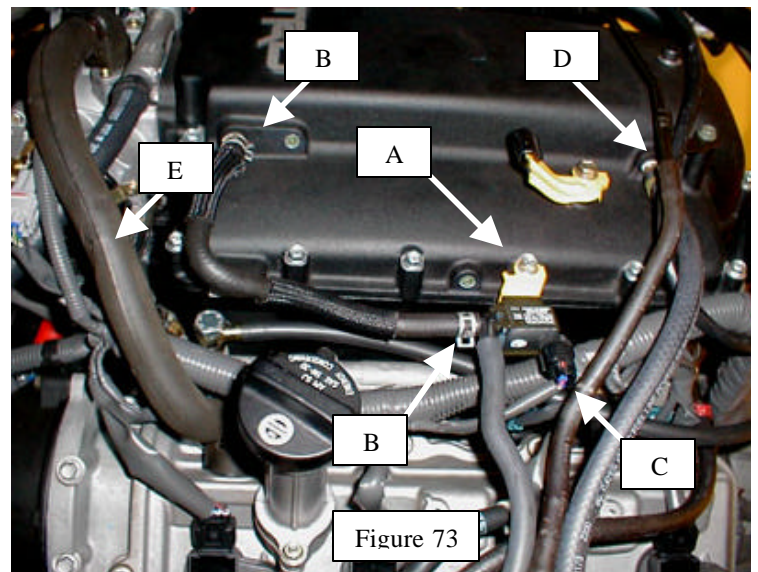

Figure 73
61. Remove one 6mm bolt in the TRD manifold. Bolt location shown in Figure 73, Arrow A.
62. Secure the EVAP VSV with the 6mm bolt removed in the previous step. Torque to 16 N-m (12 ft-lbf). Complete installation shown in Figure 73.
63. Connect the EVAP VSV vacuum hose to the VSV and the 3/8" hose nipple on the TRD manifold. Use OE clamps to secure the hose (B Arrows, Figure 73).
64. Re-connect the VSV electrical connector to the VSV (Arrow C, Figure 73).
65. Re-connect the EVAP canister vacuum hose removed in Part B, Step 8 on Page 4 (Arrow D, Figure 73).
66. Re-install the PCV valve hose (Arrow E, Figure 73).